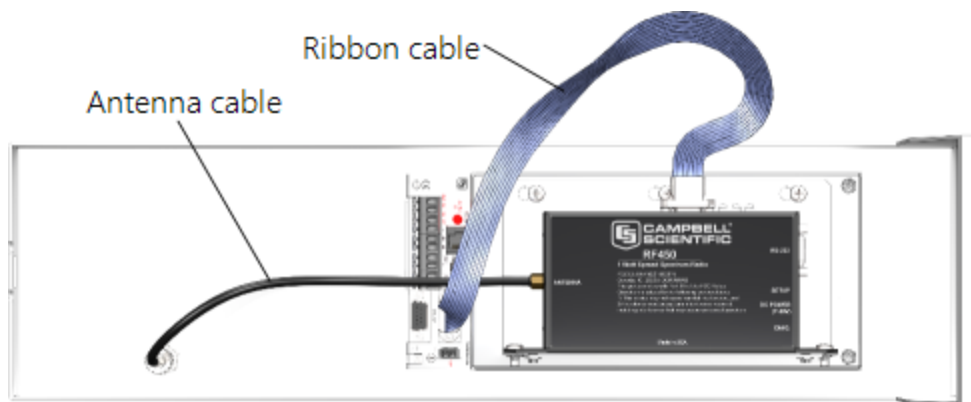

FIGURE 6-26. Radio mounted in the ET107 (battery not shown)
1. Mount the bracket and radio inside the enclosure using the three existing screws (FIGURE 6-26 (p. 44)).
3. Attach the other end of the cable to the BNC RF bulkhead connector in the lower right corner of the enclosure. Make sure all connections are tight (FIGURE 6-26 (p. 44)).